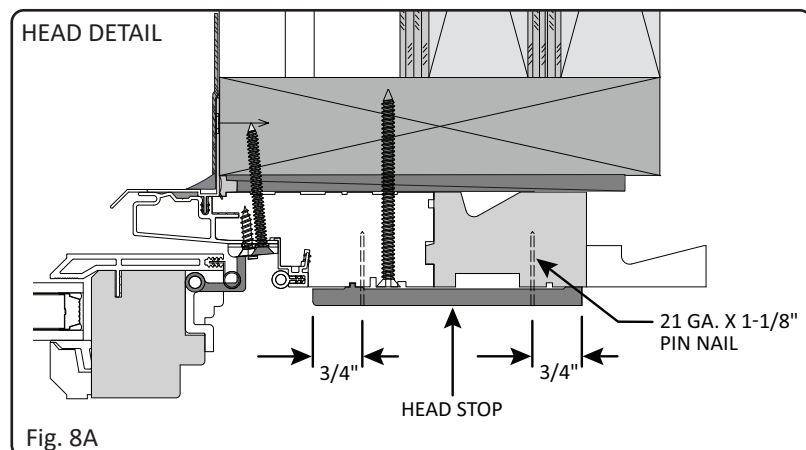

Fig. 8A
8. **(Fig 8A & 8B)** Using a finish nailing gun, fasten the stops with 21 gauge x 1-1/8" pin nails (or equivalent), located 3/4" from each edge of the stop. Space the nails 1" to 2" from each end and 8"- 10" on-center thereafter.